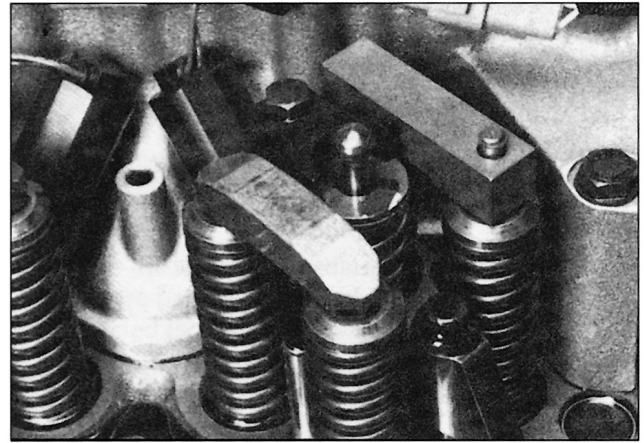

FIG. 4
4. Lubricate the actuator pins and valve stems with clean lube oil and install the CBrake by Jacobs™ crossheads over the exhaust valves. Locate the actuator pins on the exhaust valves closest to the push rod side of the engine (see Fig. 4).